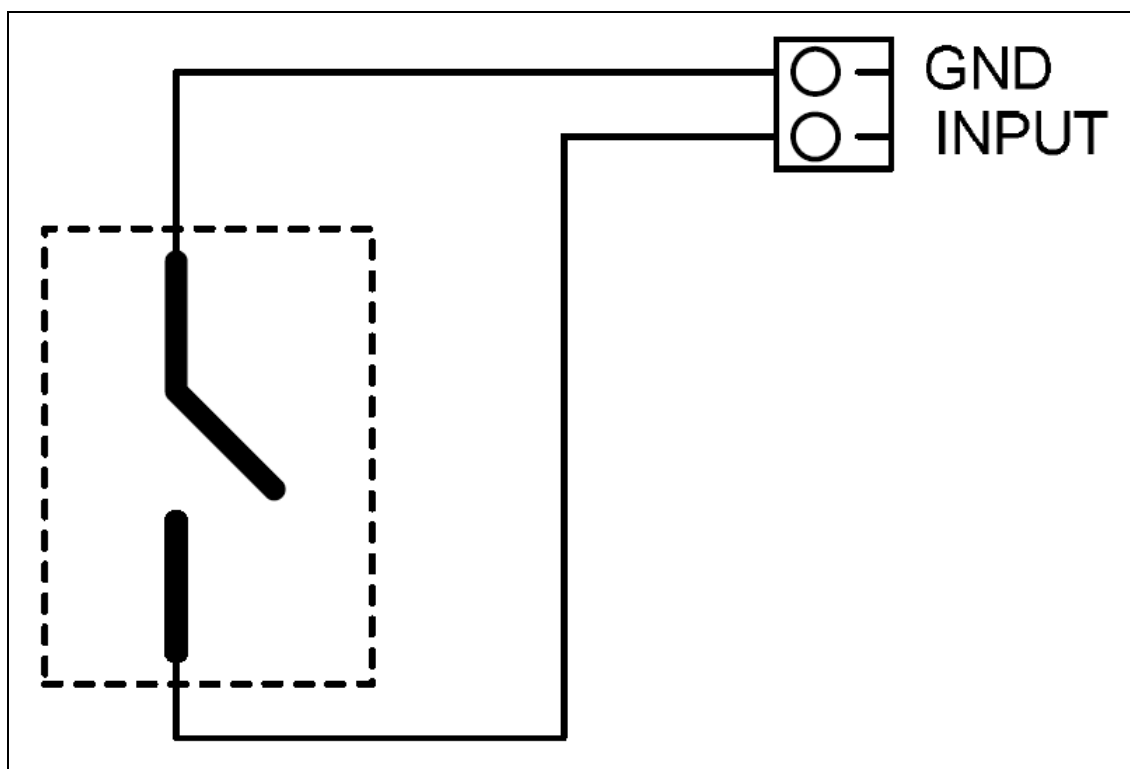
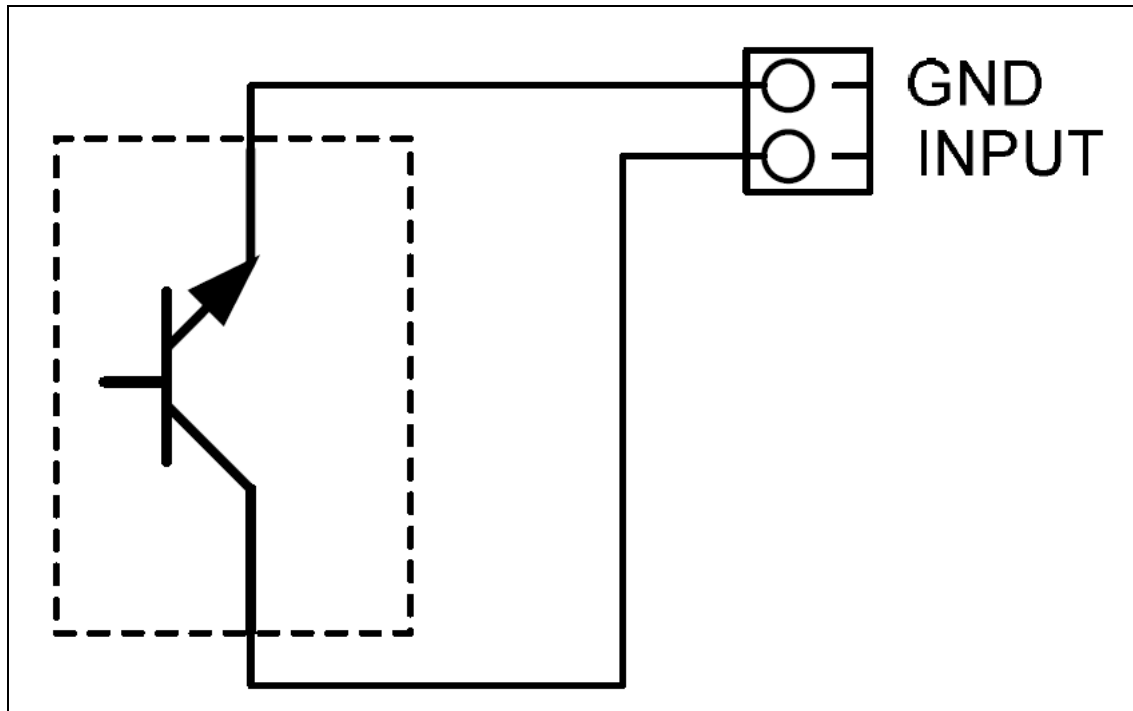
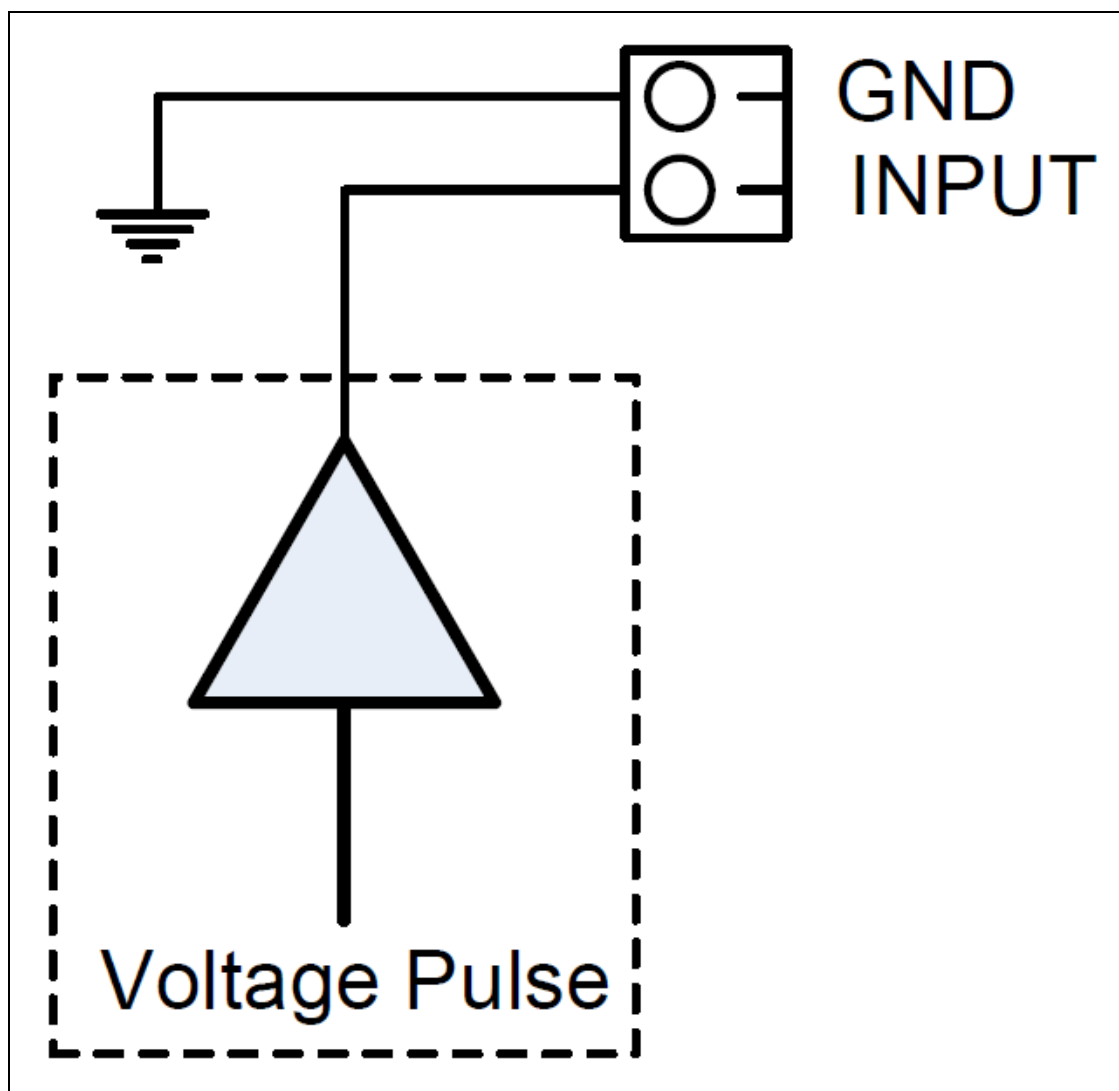

Figure 5: Dry Contact Connection
Figure 6: Open Collector Connection
Figure 7: Voltage Pulse Connection
- The digital outputs are connected to the WC20i-DI board as shown in Figure 5, Figure 6, or Figure 7.